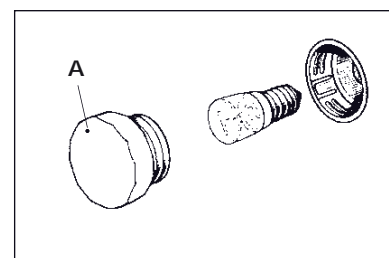

Fig. 7
Unscrew the protection cap (A - Fig. 7) protruding inside the oven and then reach the light bulb. After having replaced the light bulb, re-assemble the protection cap (A).